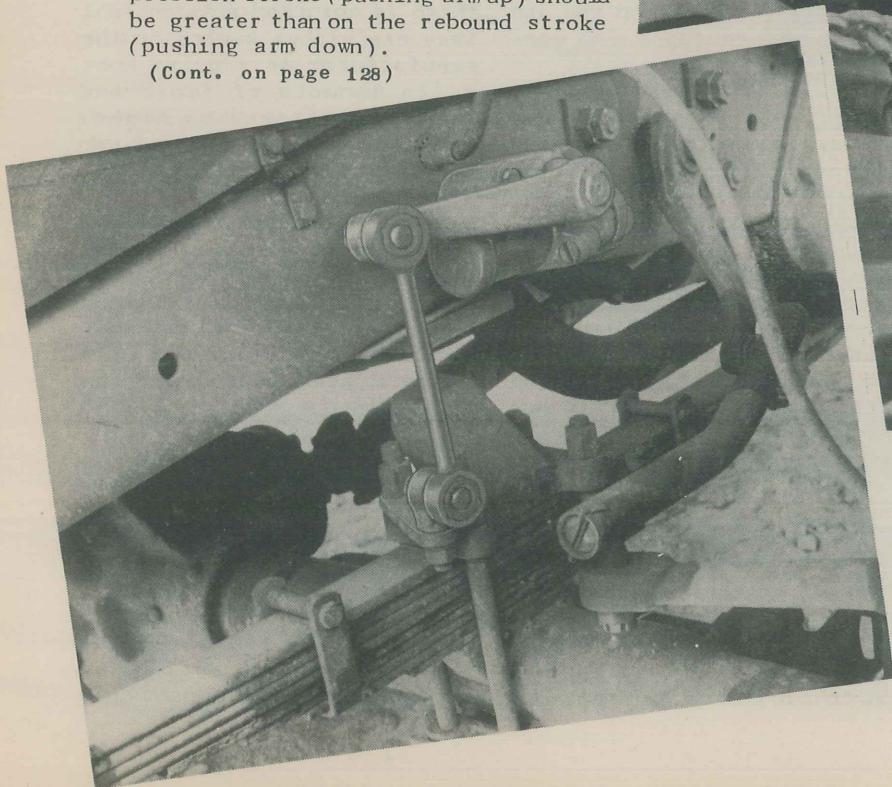

*Fig. 1 - Direct-acting type shock absorber. Servicing this type is not a 2nd-echelon job, so don't try it.*
There are two types of shock absorbers used on Army vehicles: (1) Direct-Acting (Fig. 1), and (2) Double-Acting (Figs. 2 and 3).